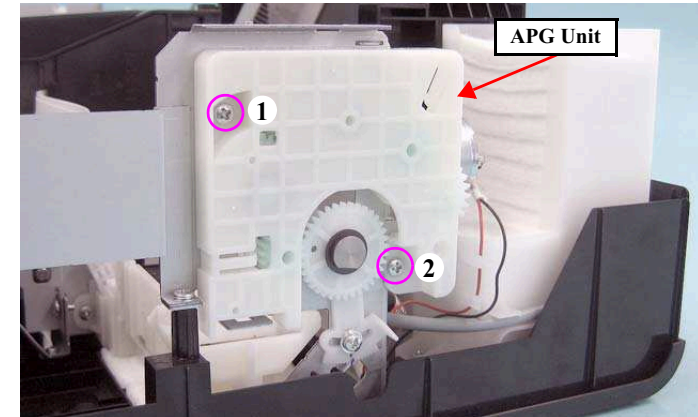

Figure 4-55. Removing the APG Unit
- Tighten the screws in the order given in Fig.4-55 \(p.75\).